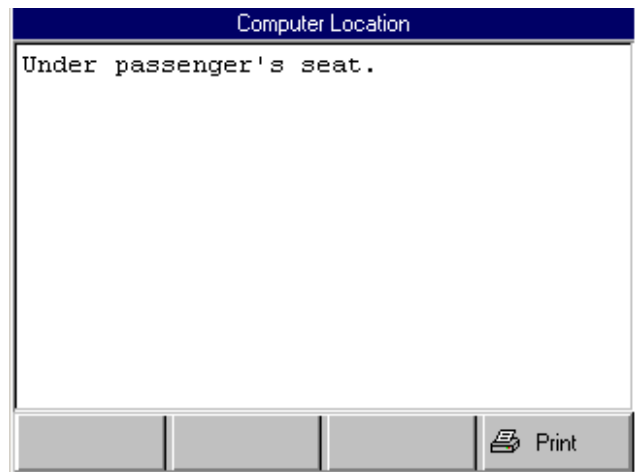

Figure 7.16: Computer Location Screen
- Select **Computer Location** and press the **ENTER** key to view a description of where the vehicle's electronic control unit (ECU) is located. This displays the Connector Location screen (see Figure 7.16).